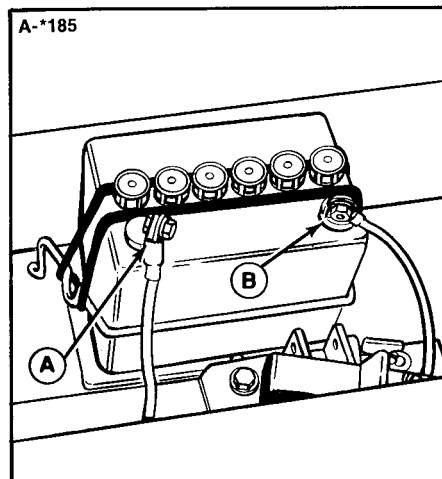

Figure 7. Battery. Shown without fuel tank for clarity.
1. Disconnect the cables from the battery, negative cable first. A positive "+" sign is stamped on the battery next to the positive terminal. See figure 7.